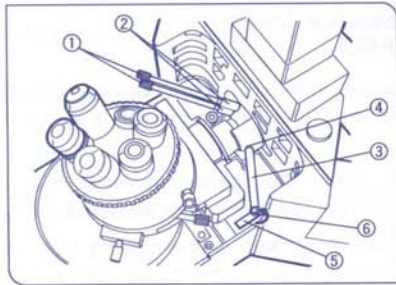

Fig. 7
**5 Attaching the Field Iris Diaphragm Centering Knobs and the Field Iris Diaphragm Lever (Fig. 7)**
2. Insert the two field iris diaphragm centering knobs ① into their seats ② on the fluorescence vertical illuminator. Turn the knobs clockwise until slightly before they can be turned no further.
3. Screw the field iris diaphragm lever ③ into the threaded hole ④ in the fluorescence vertical illuminator until it stops.
4. Using the Allen screwdriver, turn the clamping screw ⑥ of the field iris diaphragm lever's operation knob ⑤ slightly counterclockwise to loosen it a little.
5. Rotate the operation knob ⑤. When a position that offers operational ease during observation is found, tighten the clamping screw ⑥ firmly.